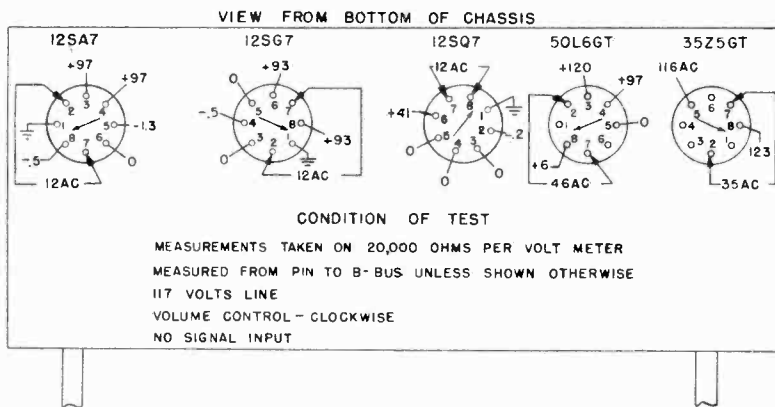

Fig. 4. Socket Voltages
- (3) Oscillator Grid Bias.
- (4) Socket Pin Voltages.
- Figure 4 shows voltages from all tube pins to B- unless otherwise specified. Voltage readings much lower than those specified may help localize defective components or tubes